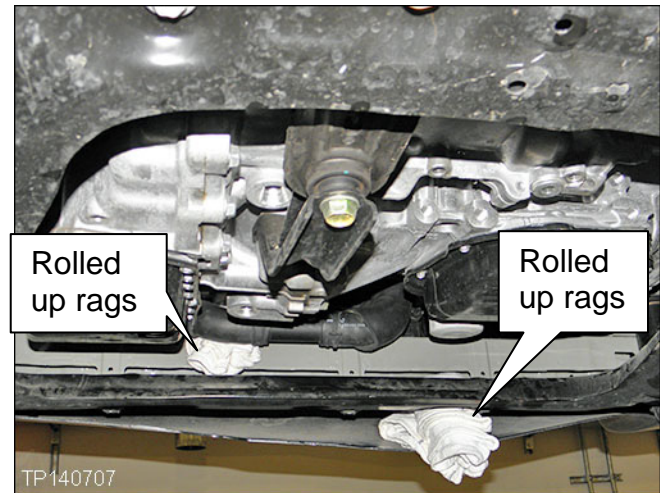

Figure 3
4. Position rolled up rags between the lower radiator hose and the lower radiator core support as shown in Figure 3.
5. Position rolled up rags between the lower front fascia and the sub-frame as shown in Figure 3.